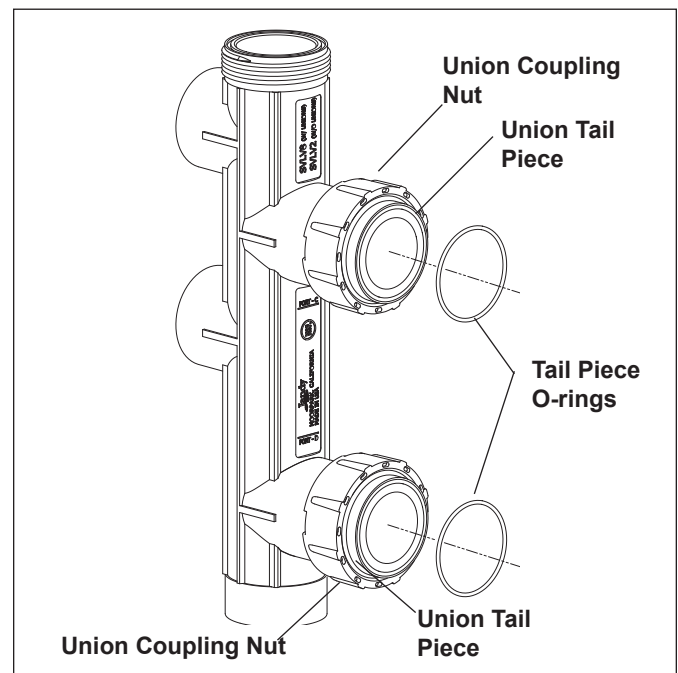

Figure 8. Install Union Tail Piece O-rings
3. Place the o-rings in the grooves provided on the union tail pieces (see Figure 8). **Ensure that the o-rings are properly seated.**